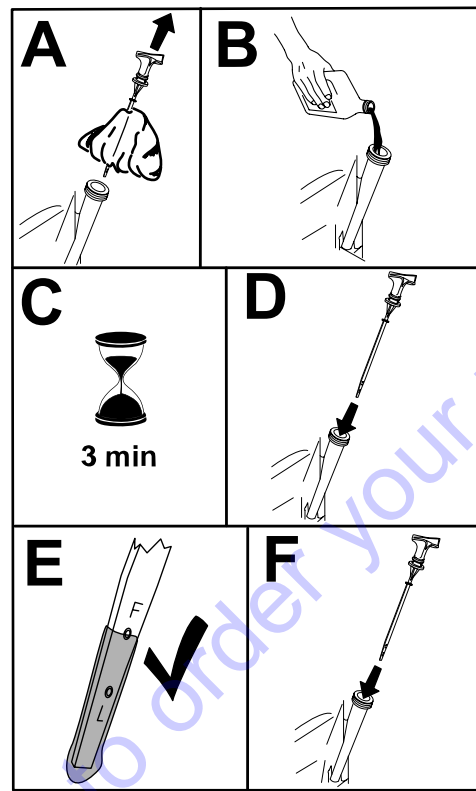

Figure 27
- Slowly pour approximately 80% of the specified oil into the filler tube (Figure 27).